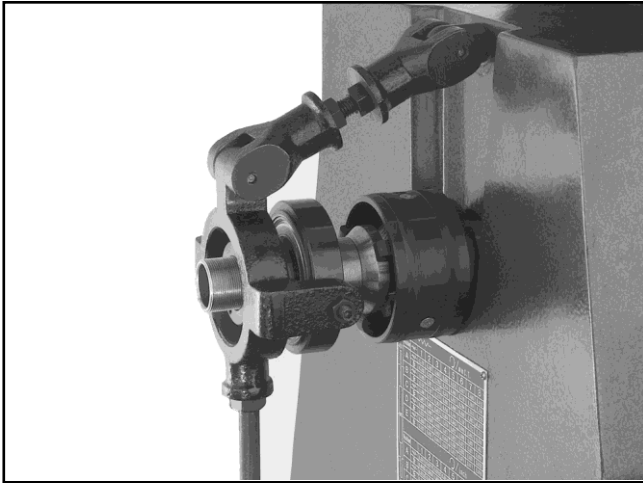

Figure 11. Completed collet closer assembly.
8. The ideal locked position for the collet closer is shown in the completed assembly diagram in **Figure 11**.